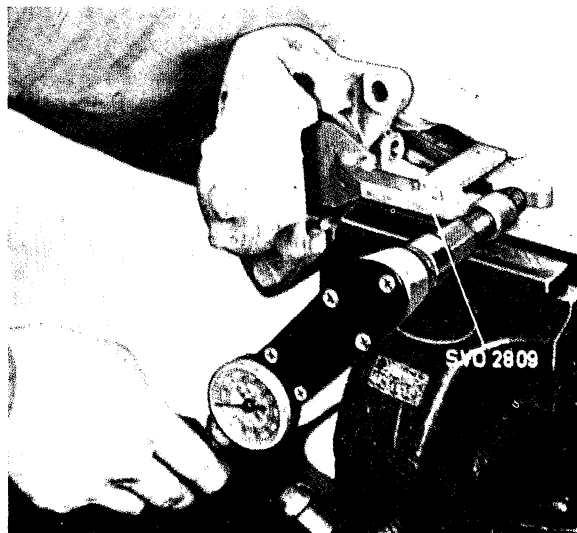

Fig. 5-29. Checking A.S.B.-device (early prod.)
3. Fit one of the pistons in the caliper. Make sure that the piston does not come at a slant or is scored or that it damages the pin for the A.S.B.-device. If the brake caliper is provided with an A.S.B. device, press in the piston with tool SVO 2809. Check the A.S.B.-device for stiffness with a torque wrench, see Fig. 5-29. The force required to press in the piston should be between 20—80 kp/cm (17—70 lb.in.). If the force required is otherwise, the piston must be replaced.